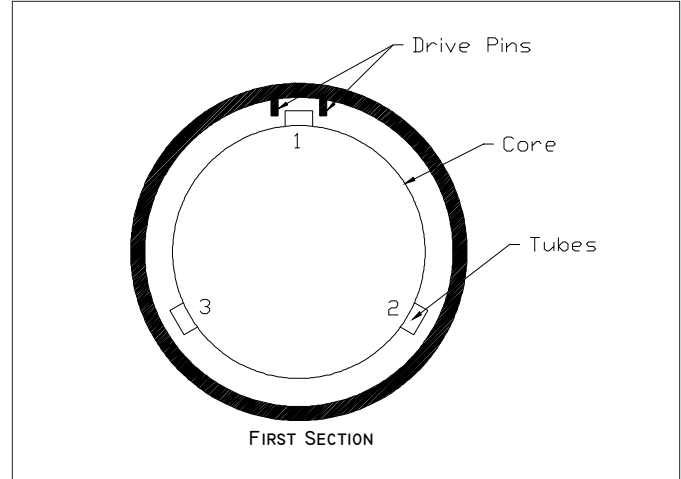

figure 1
- a. Number the drive locations on the core as 1, 2, and 3 (figure 1)